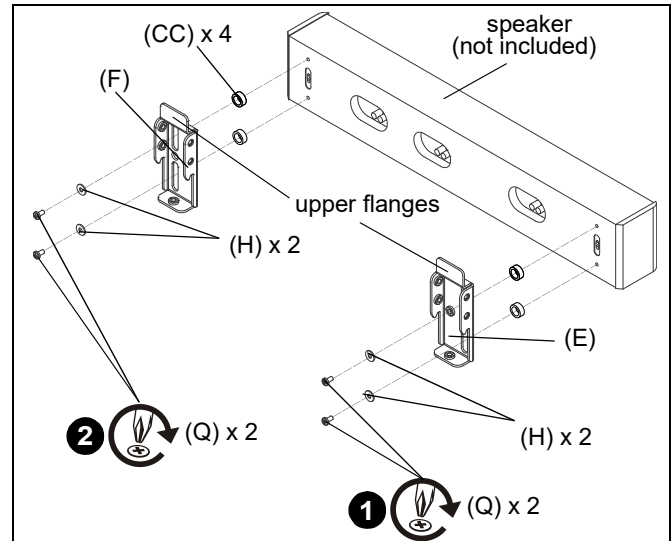

Figure 13
1. Attach left speaker interface (E) to back of speaker (left side) using two 1/4-20 x 1/2" Phillips pan head screws (Q), two large washers (H) and (optional) two dampening rubber washers (CC). (See Figure 13)
NOTE: Ensure that upper flange of interface brackets are at top of speaker. (See Figure 13)
2. Repeat Steps 1 with right speaker interface (F). (See Figure 13)